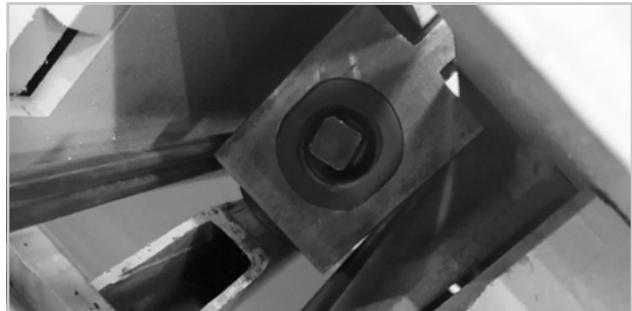

Figure 82
- Slide Acme nut on Acme rod and turn slowly until nut starts to run nut into the table 3"- 4" (Figure 82, 83)